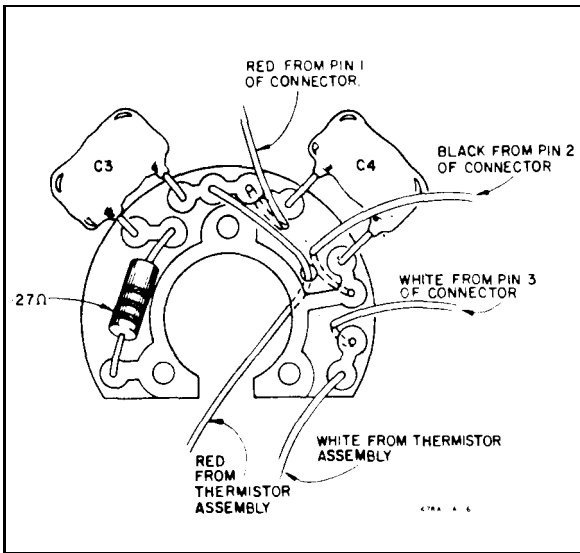

Figure 10. HP Model 478A Printed Circuit Assembly Wiring
a. Referring to Figure 10, connect the three wires from receptacle connector to printed circuit assembly.
c. Pass the red wire from the thermistor assembly through the hole indicated in Figure 10. Do not connect to printed circuit assembly at this time.